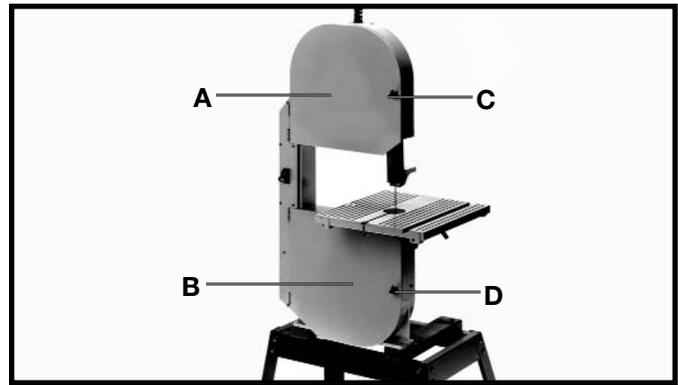
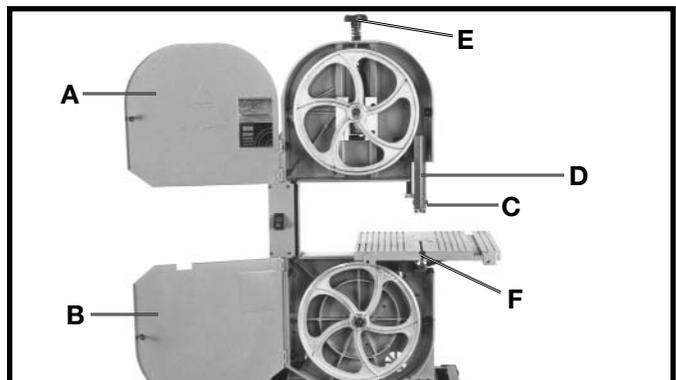

Fig. 15
Fig. 32
When making adjustments such as changing the blade, tracking the blade, blade guide adjustments, etc., the hinged doors (A) and (B) Figs. 15 and 16, can be opened as follows:
1. Pull out on the two door knobs (C) and (D) Fig. 15, and swing doors (A) and (B) open.
3. To close and fasten doors (A) and (B), Figs. 15 and 16, press on door directly over door knobs (C) and (D) Fig. 15, until latches snap into the locking position.
1. Pull handles (C) and (D) Fig. 15, and open doors (A) and (B) as shown in Fig. 32.
2. Loosen screw (C) Fig. 32, and remove blade guard (D).
3. Release tension on the band saw blade by turning knob (E) Fig. 32, counterclockwise.
4. Remove table alignment screw (F) Fig. 32 and table insert.
9. Close doors (A) and (B) Fig. 32, before operating.
10. Replace table insert and alignment screw (F) Fig. 32, that was removed in **STEP 4**.